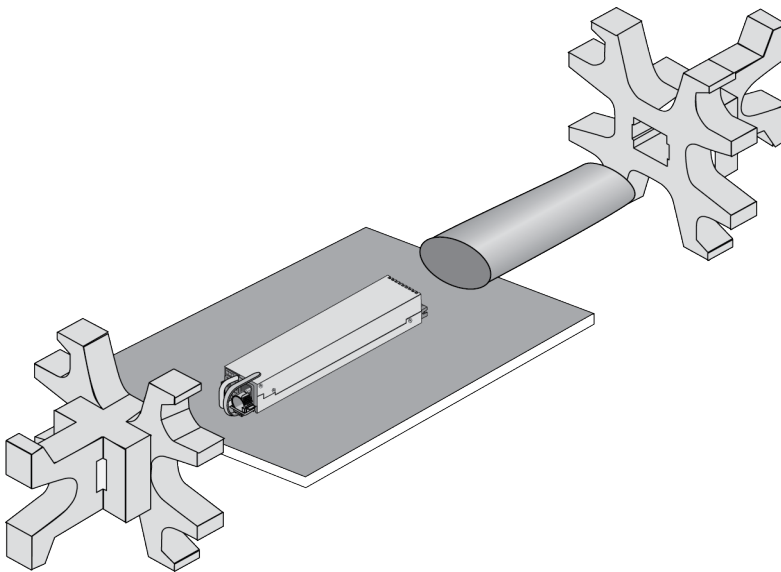

Figure 54. Removing the Power Supply from the Shipping End-caps and Protective Bag
4. Remove the power supply from the shipping end-caps and protective shipping bag. Refer to Figure 54.